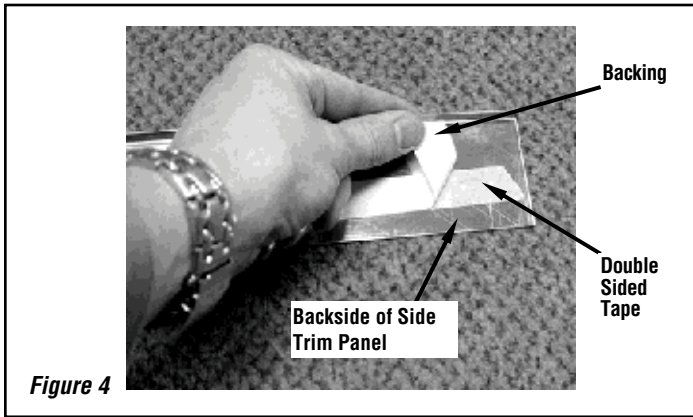

Figure 4
Step 4. Peel off the backing on the double-sided tape on the backside of each side trim panel (see **Figure 4**). Avoid touching the sticky surface of the tape.